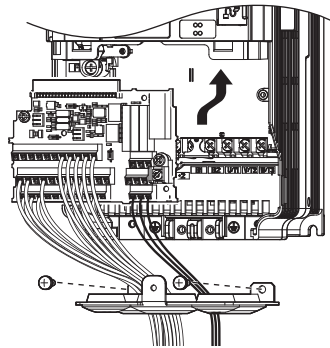

Figure 82 Drive Replacement: Installing the Control Terminal Board
- After wiring the main circuit, connect the terminal block to the drive as shown in Figure 82. Use the installation screw to fasten the terminal block into place.